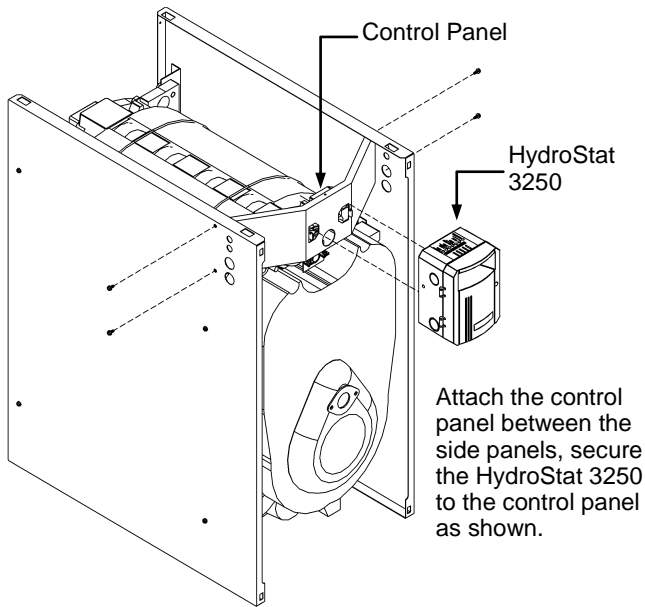

Figure 4-10 Attach Back Panels & Electro-well
9. Mount HydroStat 3250 by sliding it down over the tabs on the control panel. Secure in place with hold down bracket as shown (Figure 4-10).
10. Mount bottom back panel to boiler (Figure 4-10); Recommend installing top back panel after flue breeching connected, sealed, and supported. (See also Figure 6-1 Flue Breeching).